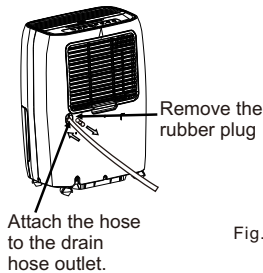

Fig. 7
- Remove the rubber plug from the back drain hose outlet. Attach a drain hose (ID=13.5mm) and lead it to the floor drain or a suitable drainage facility (see Fig.7).